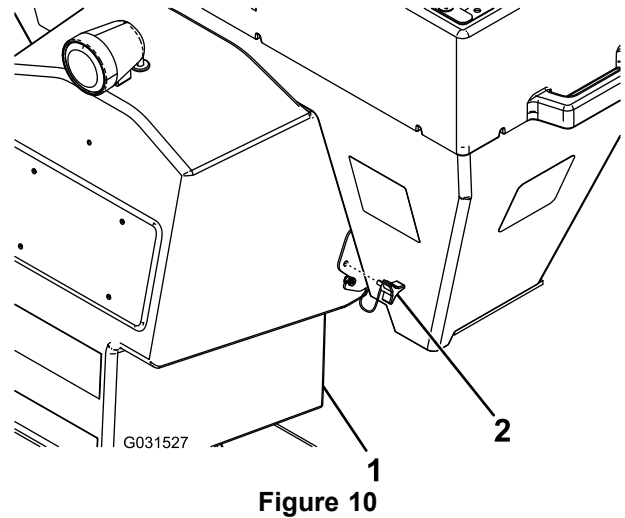

Figure 10
3. Attach the spinner assembly to the spreader and secure it with the thumb screws (Figure 10).